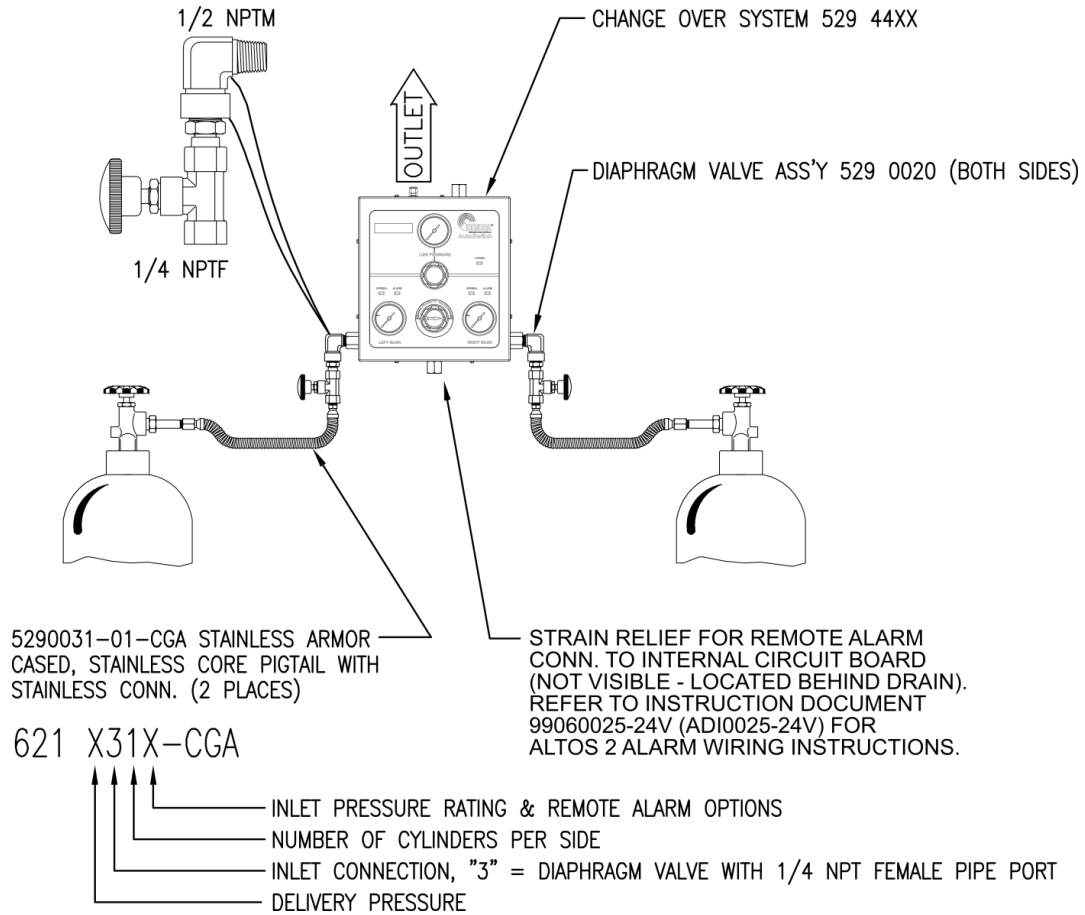

Figure 11 – Diaphragm Valve with 1/4” NPT Female Port Shown with One Cylinder per Side
System 621 X31X-CGA (one pigtail per side with diaphragm valves) – see Figure 11 for locations of components:
2. After taping the male NPT connections, thread the 1/2 NPT of the diaphragm valve assembly into the bulkhead connector of the AutoSwitch as shown in Figure 11. Wrench-tighten.
3. Thread the 1/4 NPT connection of the pigtail assembly into the diaphragm valve assembly as shown in Figure 11. Wrench-tighten. Note: while tightening the pigtail assembly into the diaphragm valve assembly, a second wrench must be in place holding the diaphragm valve. Failure to do so may cause the diaphragm valve assembly to loosen.